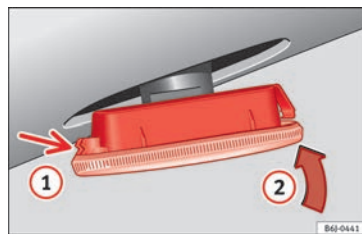

Fig. 115 Turn signals.
- First fit the turn signal in the opening in the chassis, fastening the tabs **1** »» Fig. 115, and then fit in the bulb as shown by the arrow **2** »» Fig. 115.